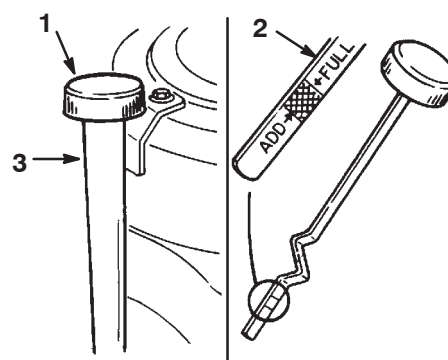

Figure 37
4. Clean around the oil dipstick (Fig. 37) so dirt cannot fall into the filler hole and damage the engine.
5. Unscrew the oil dipstick and wipe the metal end clean (Fig. 37).
6. Slide the oil dipstick fully into the filler tube, do not thread onto tube (Fig. 37). Pull the dipstick out and look at the metal end. If oil level is low, slowly pour only enough oil into the filler tube to raise the level to the full mark.
10. Clean around the oil dipstick and unscrew the cap (Fig. 37).
11. Slowly pour approximately 80% of the specified oil into the filler tube (Fig. 37). Refer to Servicing the Engine Oil, page 31.